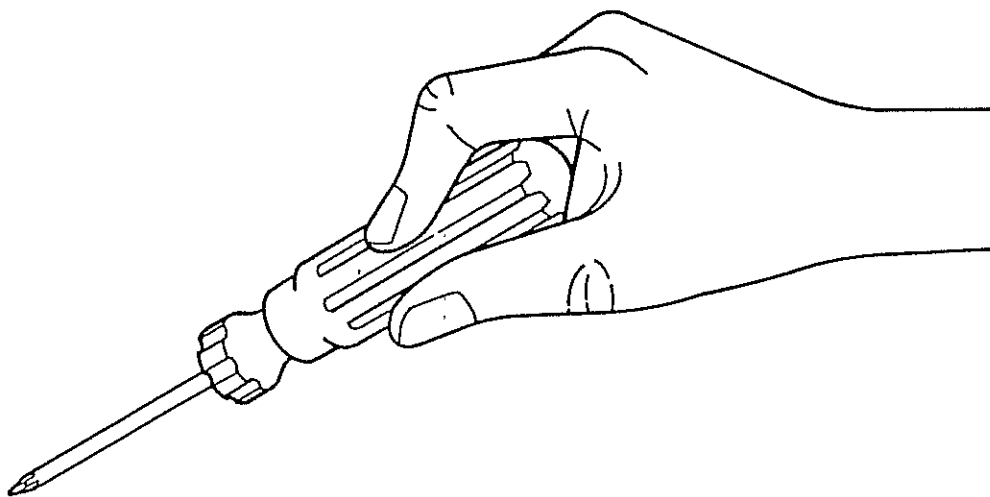

図3 Fig.3
- 指3本で締め付ける程度で固定は充分。手の平でドライバー柄を握り、締め付ける事はしない。(図3参照)
- To turn the screwdriver gripping the handle using your thumb and two fingers will provide sufficient fastening force. Do not fully grip the handle using the palm of the hand.(See Fig.3)